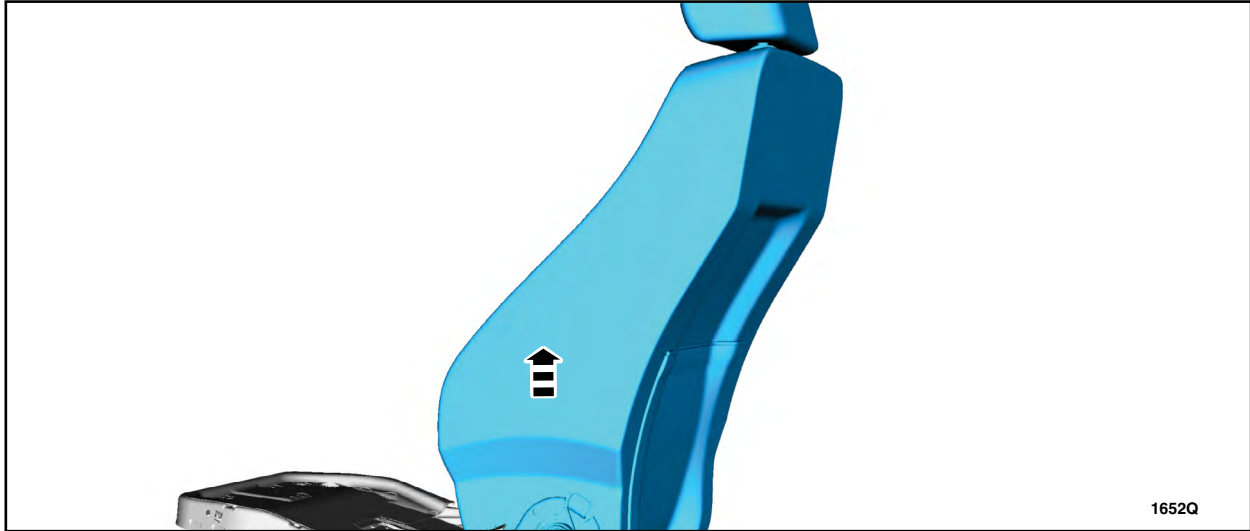

FIGURE 27
8. Remove the seat backrest cushion, cover, and the side airbag as an assembly. See Figure 27.